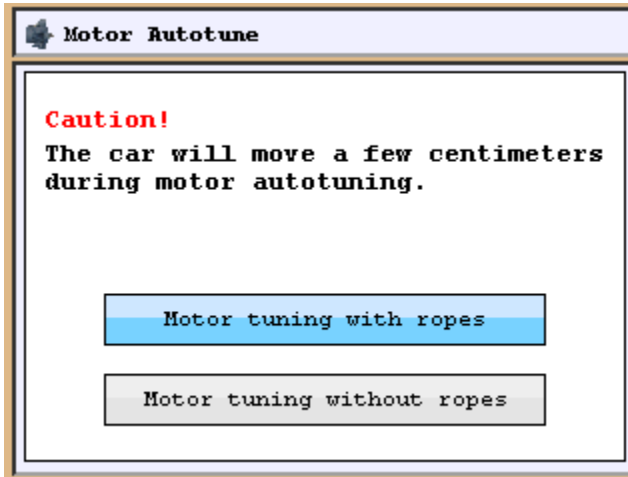
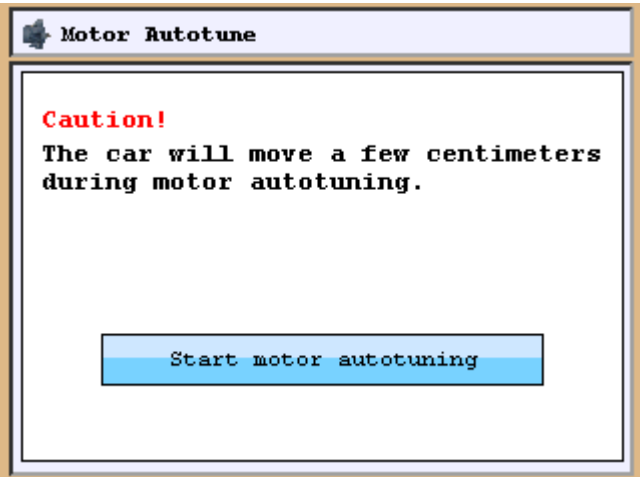

Figure-11b: Auto-tune starting screen for **Synchronous** motor
Figure-11c: Auto-tune starting screen for **Asynchronous** motor
- When pressed Enter button, if gearless machine is used, Figure-11b appears on the screen, if geared machine is used, there will be only 1 option for motor tuning which is like the Picture on Figure-11c. When pressed Enter button again, you will see “**Turn the recall switch to INSPECTION position**”